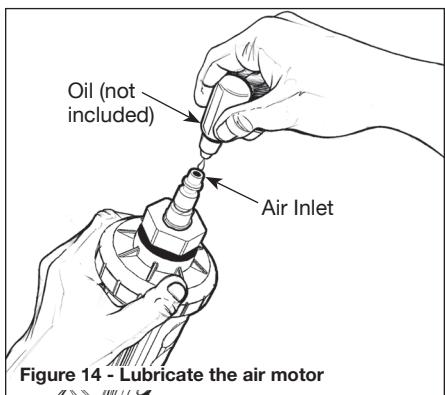

Figure 14 - Lubricate the air motor
1. Add 3 to 5 drops of oil at the air inlet (see Figure 14).